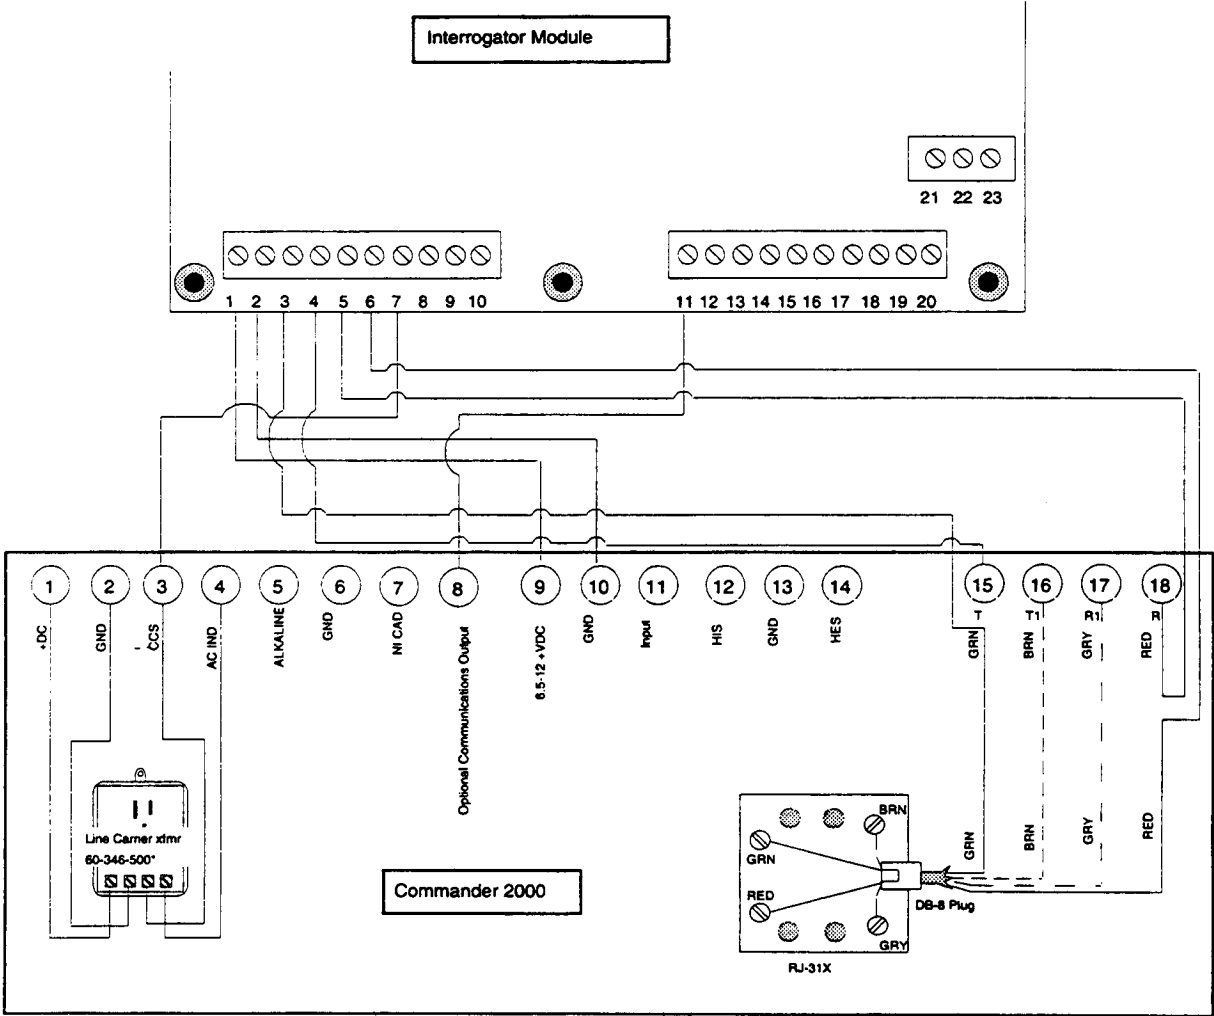

Figure 2.10 Commander 2000 Wiring Diagram
2. Connect the Interrogator Module to the Control Panel as shown in Figure 2.10.
3. Connect the phone circuit so the Interrogator Module is ahead of the Commander 2000. (Refer to Figure 2.10.)